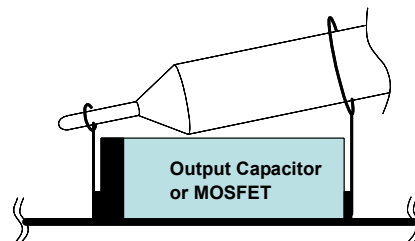
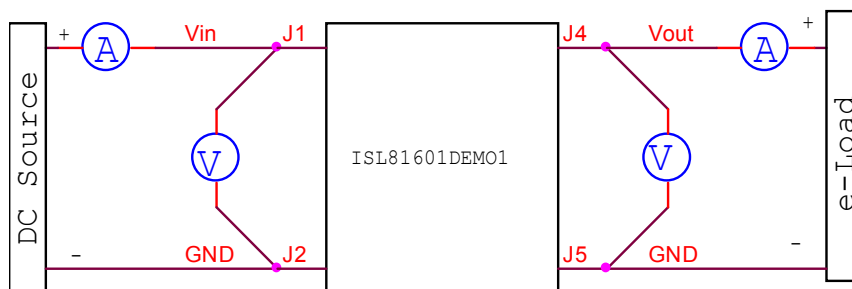

Figure 6. Proper Probe Set-Up to Measure Output Ripple and Phase Node Ringing
Figure 7. Proper Test Setup
As shown in Figure 7 on page 7, 32V to 60V V_{IN} is supplied to J_1 (+) and J_2 (-). The regulated 48V output on J_4 (+) and J_5 (-) can supply up to 10A to the load. Due to the high power efficiency, the demonstration board can run at 5A continuously without airflow at room temperature ambient conditions.
- (1) Jumper J₈ provides the option to select PWM or DEM. Jumper J₉ provides the option to select Constant current limit or HICCUP. Refer to Table 3 for the operating options. Ensure that the circuit is correctly connected to the supply and electronic loads prior to applying any power. Refer to Figure 7 for proper setup.
- (2) Turn on the power supply.
- (3) Adjust input voltage V_{IN} within the specified range and observe the output voltage. The output voltage variation should be within 3%.
- (4) Adjust the load current within the specified range and observe the output voltage. The output voltage variation should be within 3%.
- (5) Use an oscilloscope to observe output voltage ripple and phase node ringing. For accurate measurement, refer to Figure 6 for proper test setup.